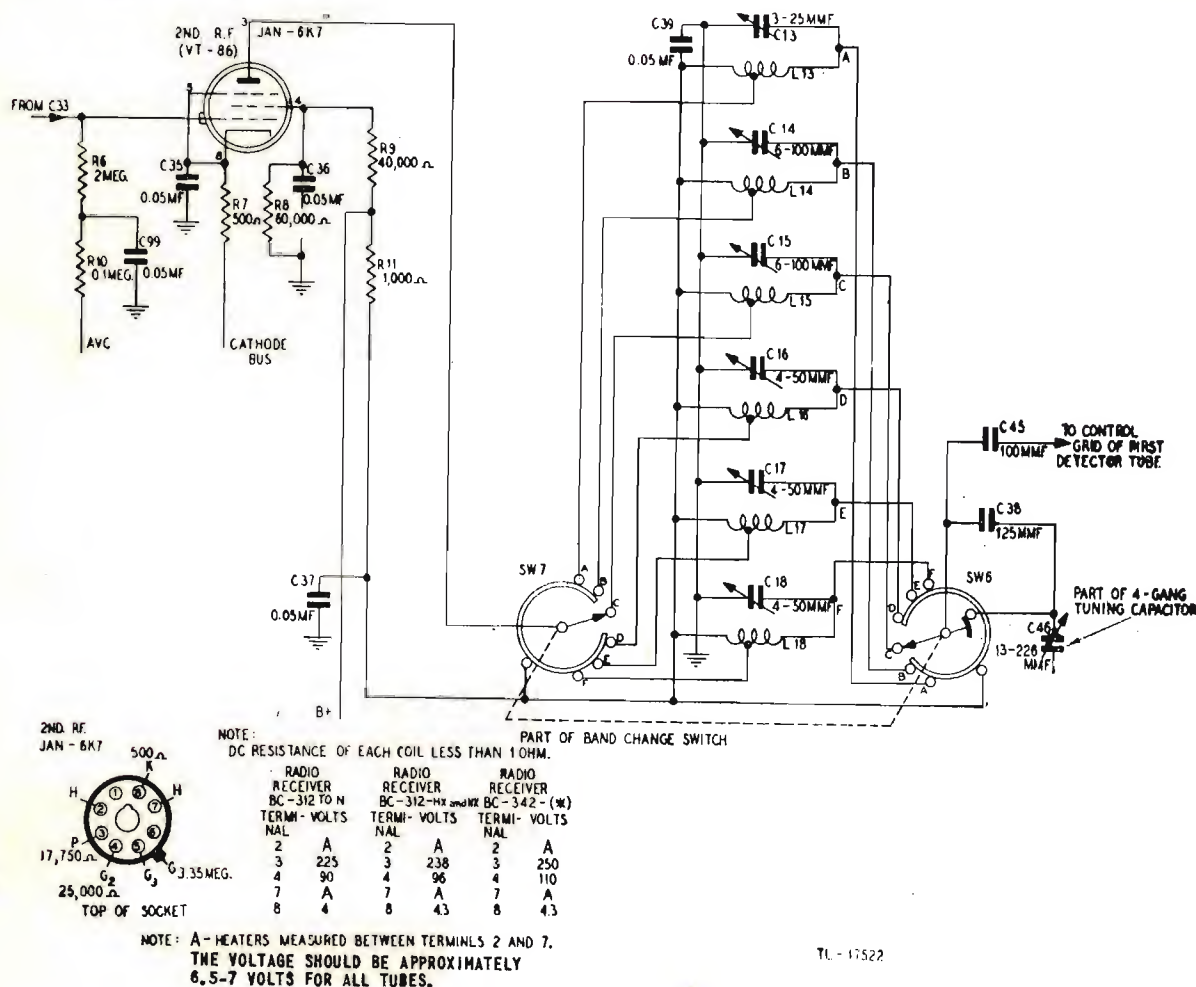

Figure 23. Second r-f amplifier, schematic diagram.
b. VOLTAGE AND RESISTANCE MEASUREMENTS. The voltage and resistance measurements shown in figure 23 are made in the manner and under the conditions listed in paragraph 42b.